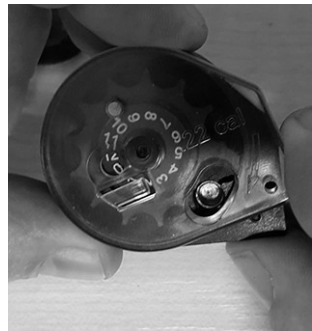

Fig. 16
2. Once the first pellet is in position the spring pressure on the clear front cover is released and the clear front cover is now free to rotate. Fig. 16.